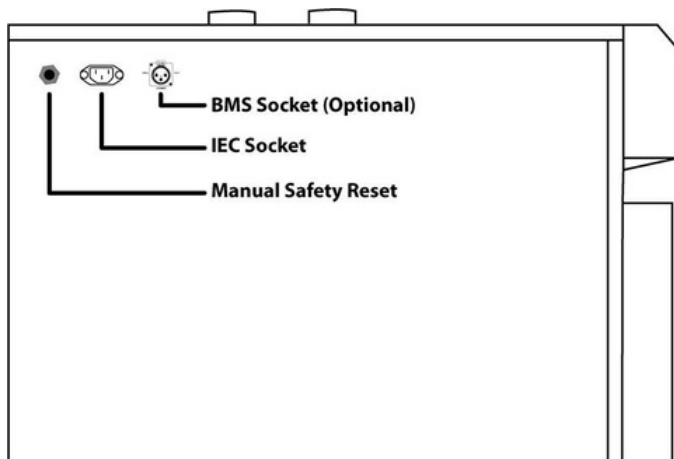

Fig 1.
- Locate the safety reset at the back of the cabinet. It is displayed as a red or black knob. **(Fig 1)**